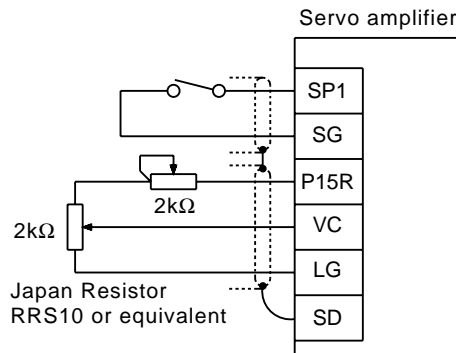

Fig. 3-14 Connection Example
Generally connect as shown in Fig. 3-14. When a precision speed command is required, refer to 1)b, (2) in this section.